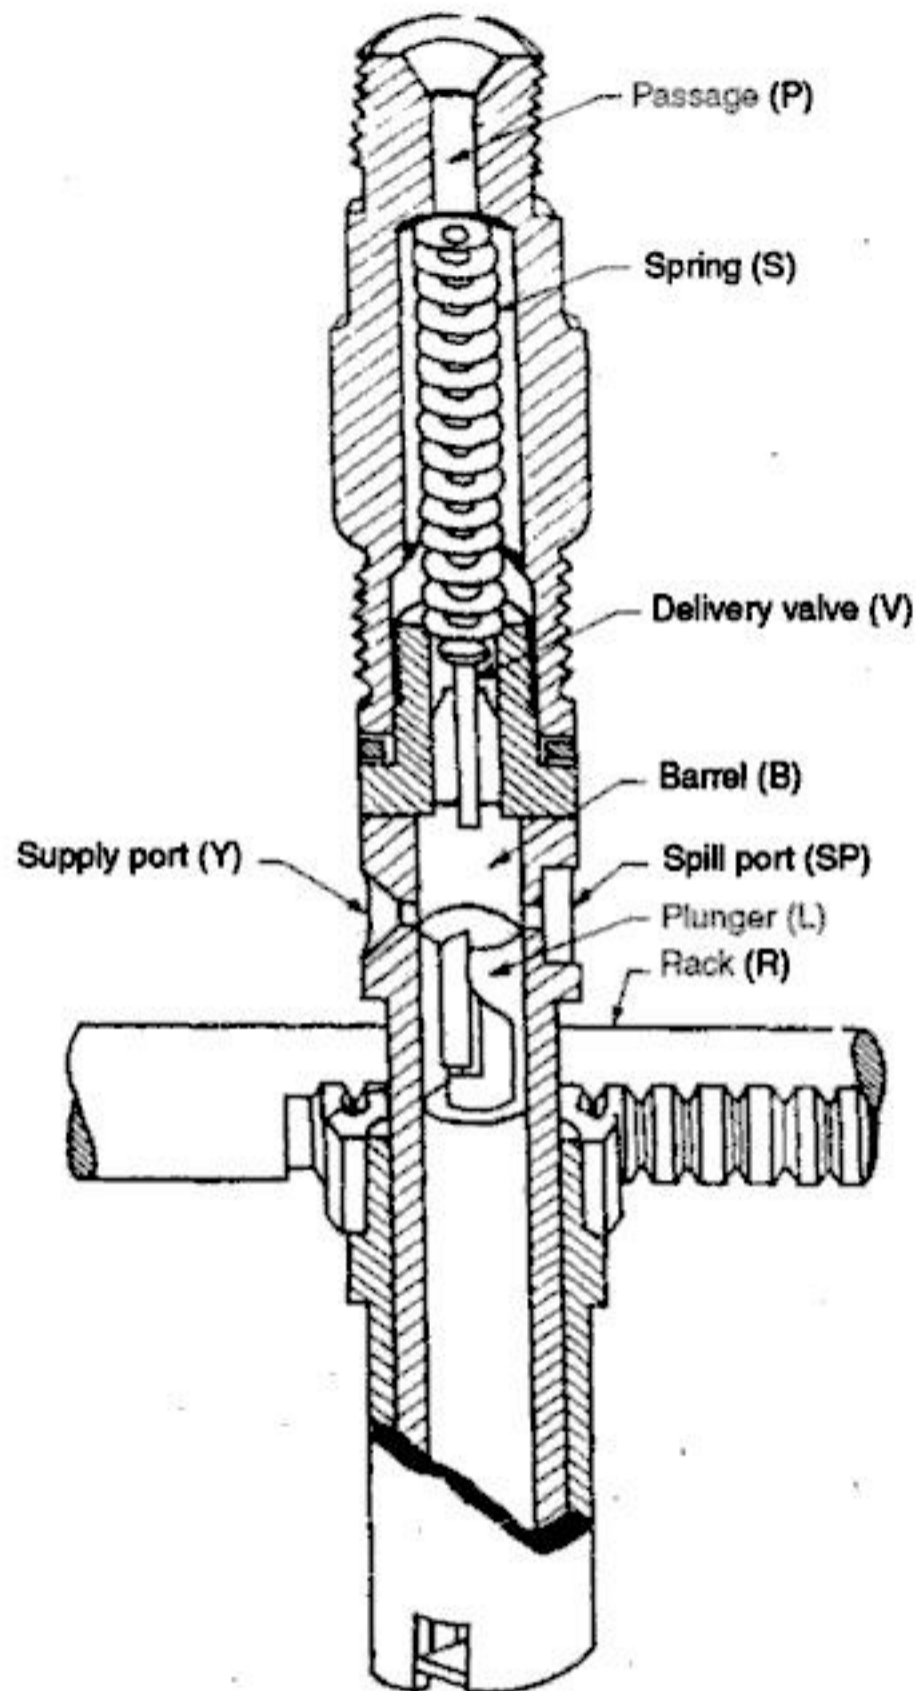

Fig. 12.5. Fuel pump.
- When the plunger is at its bottom stroke the ports *SP* and *Y* are uncovered (as shown in Fig. 12.5) oil from low pressure pump (not shown) after being filtered is forced into the barrel. When the plunger moves up due to cam and tappet mechanism, a stage reaches when both the ports *SP* and *Y* are closed and with the further upward movement of the plunger the fuel gets compressed. The high pressure thus developed lifts the delivery valve off its seats and fuel flows to atomiser through the passage *P*. With further rise of the plunger, at a certain moment, the port *SP* is connected to the fuel in the upper part of the plunger through the rectangular vertical groove by the helical groove, as a result of which a sudden drop in pressure occurs and the delivery valve falls back and occupies its seat against the spring force. The plunger is rotated by the rack *R* which is moved in or out by the governor. By changing the angular position of the helical groove (by rotating